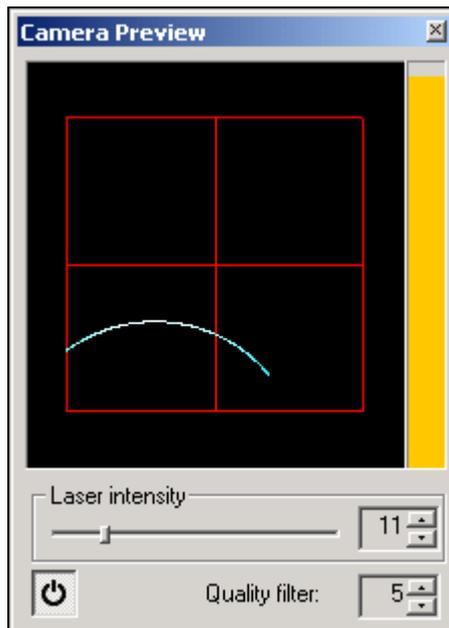

Figure 9: Camera Preview in Metris Scan.
- Switch on the laser. This is done by depressing the  button in the Camera Preview window (Figure 9) (check that a laser spot appears). If the Camera Preview window is not showing, bring it up by clicking the  icon, located towards the right of the second row of icons at the top of the Metris Scan window.
The laser head has a field of view of 15mm. For successful scanning, you need to position the head at the correct distance from the object so that a trace is seen in the Camera Preview (as in Figure 9). This may take a little practice, so apply the following tips: